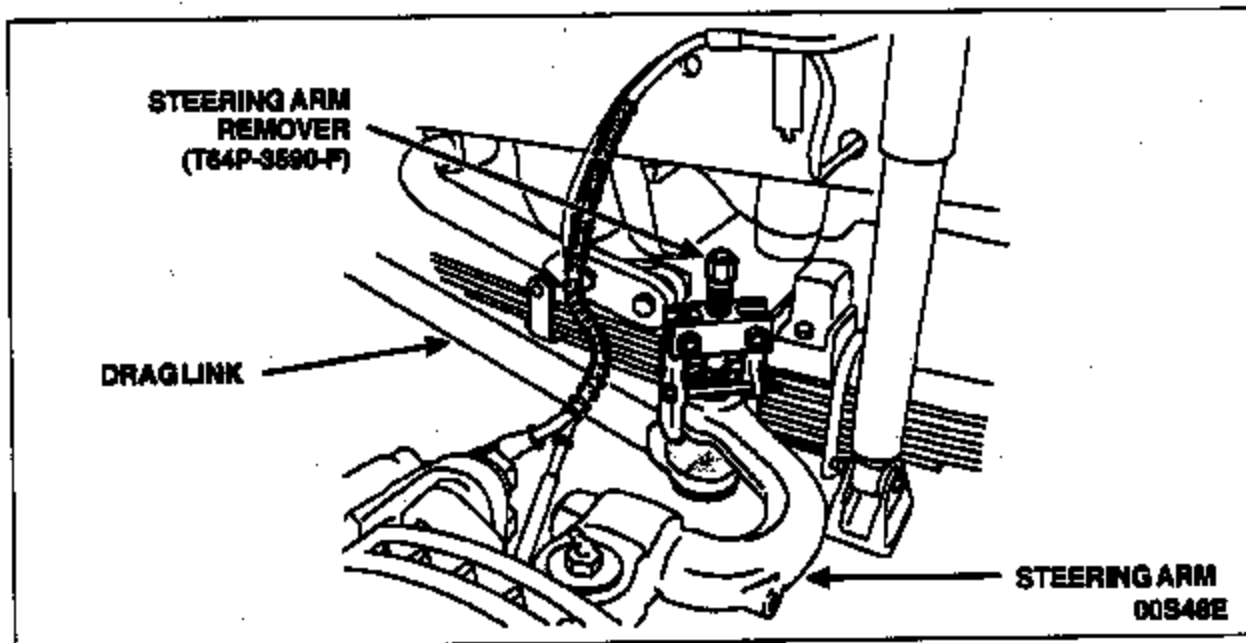

FIGURE 5
4. Separate the drag link from the sector shaft arm and the steering arm using Steering Arm Remover (T64P-3590-F) or equivalent. Remove and discard the drag link. See Figure 5.